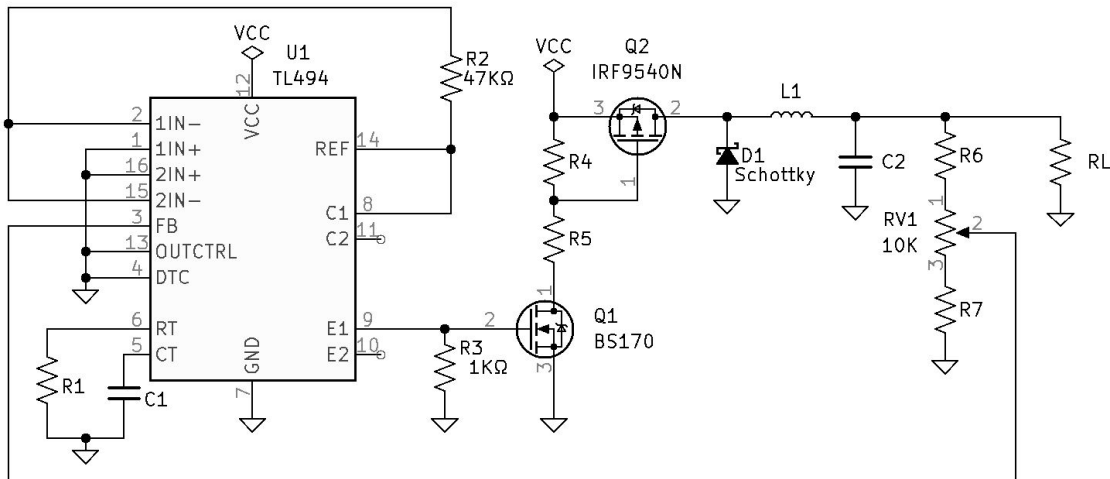

Figure 10.5: Regulated Switching Power Supply Circuit
5. Design a feedback circuit to supply a DC voltage from the output of the switching power supply that will regulate the output voltage at 25VDC. See Figure 10.5 *Regulated Switching Power Supply Circuit*.